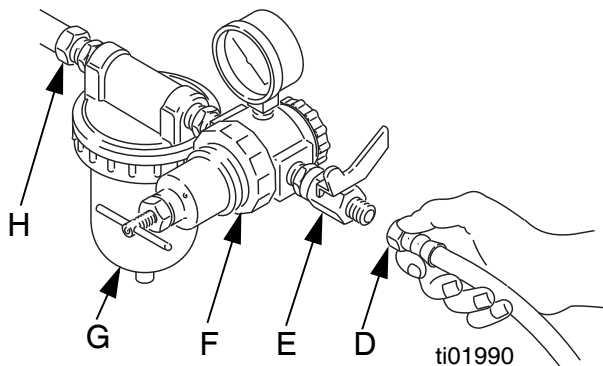

FIG. 6: Connect Air Line
- You must install an air pressure regulator (F) on each gun air line to control air pressure to the gun. See FIG. 6.
- If your regulated air source does not have a filter, install an air filter (G) on each air line to ensure a dry, clean air supply to the gun. Dirt and moisture can ruin the appearance of your finished workpiece. See FIG. 6.
- Install a bleed type air shutoff valve (E) on each gun air supply line, downstream of the gun air regulator, to shut off air to the gun.
2. Connect each air hose (D) to a regulated air supply line (H).